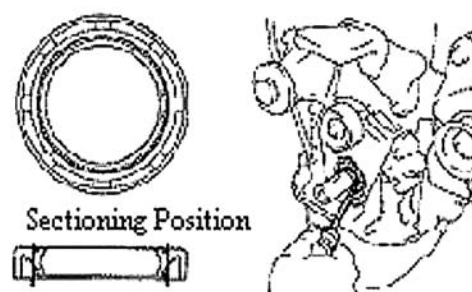

Figure 75
2. Remove oil pump oil seal. See (Figure 75)
6. Remove engine rear oil seal. See (Figure 75)